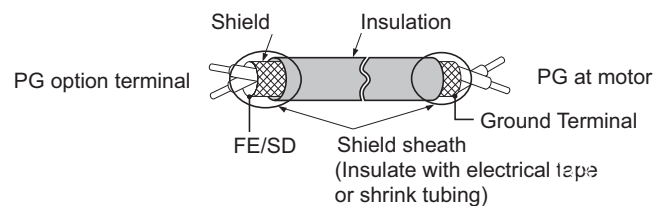
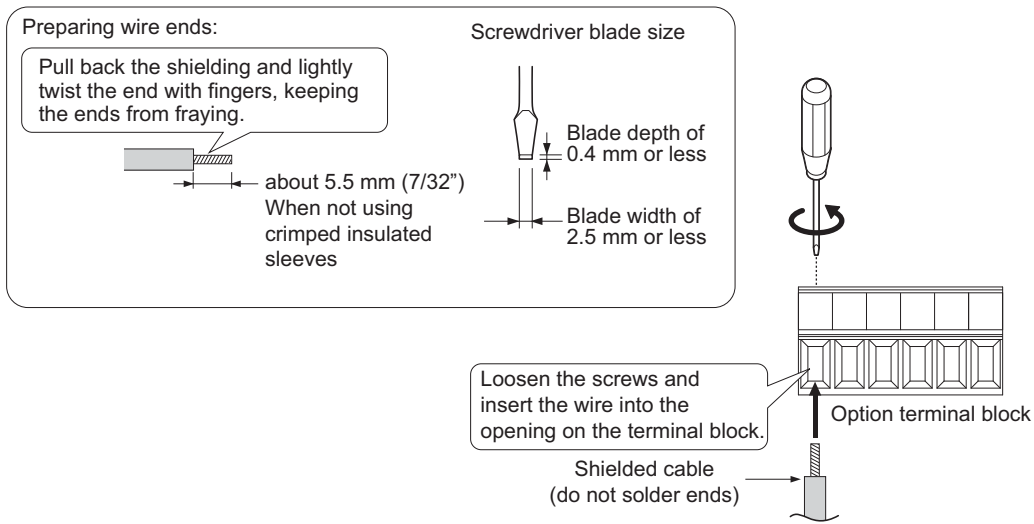

Figure 8.6 Preparing Ends of Shielded Cable
Figure 8.7 Preparing and Connecting Cable Wiring
2. There are two screw holes on the drive for use as ground terminals (I). When connecting three options, two ground wires will need to share the same drive ground terminal.
4. Prepare and connect the wire ends as shown in Figure 8.6 and Figure 8.7. Refer to Wire Gauges, Tightening Torque, and Crimp Terminals on page 405 to confirm that the proper tightening torque is applied to each terminal. Take particular precaution to ensure that each wire is properly connected and wire insulation is not accidentally pinched into electrical terminals.